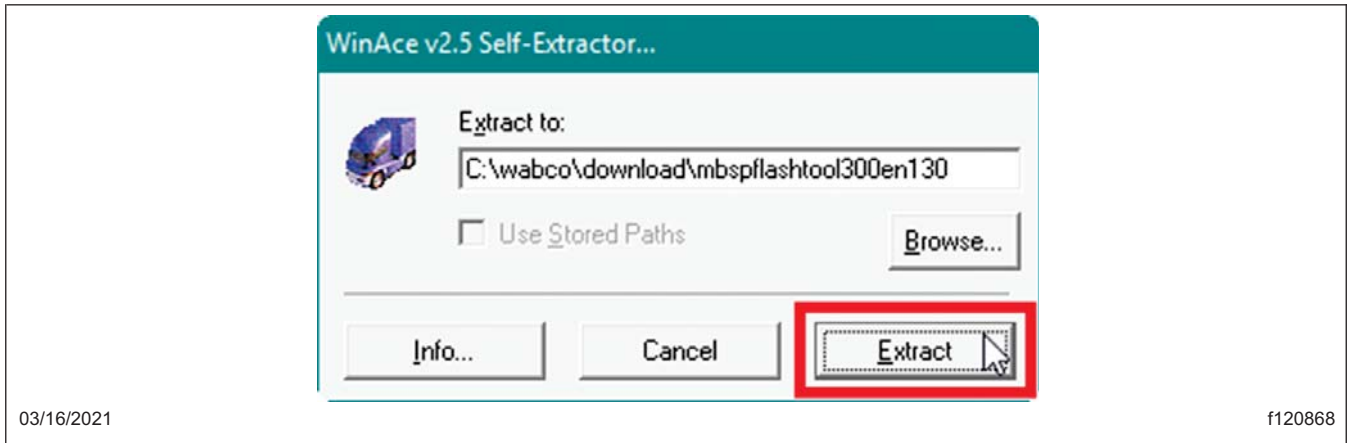

Fig. 8, Extracting the mBSP Executable File
7.2 Select 'Extract' to extract the files onto your local hard drive. See Fig. 8.